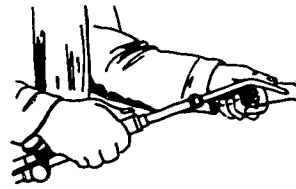

Figure 7. Lighting the Torch
3. Light the gas flowing through the torch tip (see figure 7).